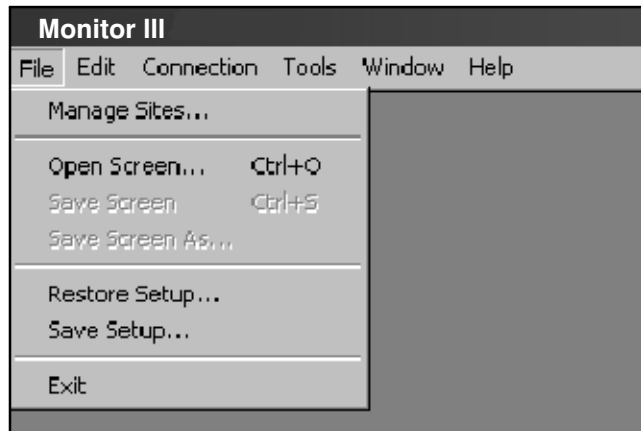

Figure 2-4 File Menu
The Screen commands are disabled if no windows are displayed. See Figure 2-4.
1. Select *File→Save Screen As* from the menu bar as shown in Figure 2-4.
2. Select *File→Save Setup* from the menu bar as shown in Figure 2-4.
1. Select *File→Restore Setup* from the menu bar as shown in Figure 2-4.